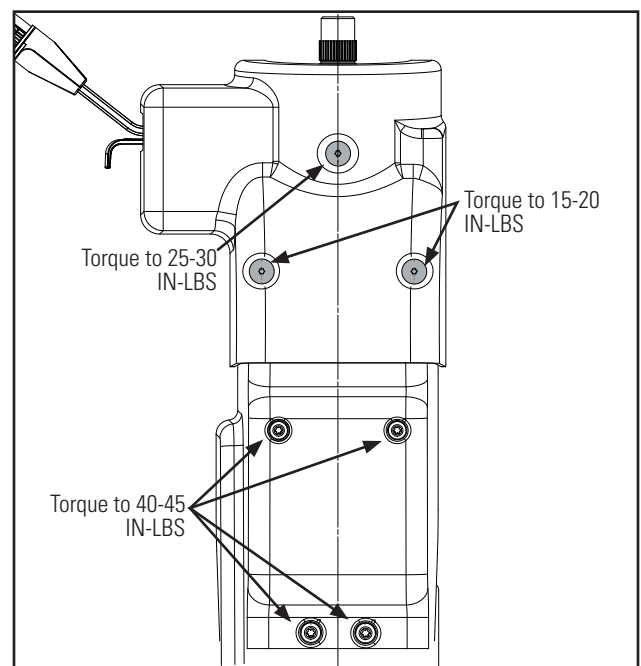

FIGURE 2
3. Using a T25 Torx driver, remove the (3) upper shroud screws shown in Figure 2. The upper shroud that faces the driver will come off at this time; be sure to catch the large lock washers and re-use them in #9 below.
5. Still using a T27 Torx driver, remove the (4) lower shroud screws. See Figure 2.
9. Install the upper shrouds onto the new column assembly, re-using the (3) screws from #3 above. Be sure to fit the large lock washers (from #3 above) over the (2) lower posts, on the inside of the upper shroud that faces the driver. Tighten the (1) upper screw to 25-30 in-lbs, and the (2) lower screws to only 15-20 in-lbs. See Figure 2.
11. Install the lower shroud onto the new column assembly, re-using the same (4) screws from #5 above. Tighten all (4) screws to 40-45 in-lbs. . See Figure 2